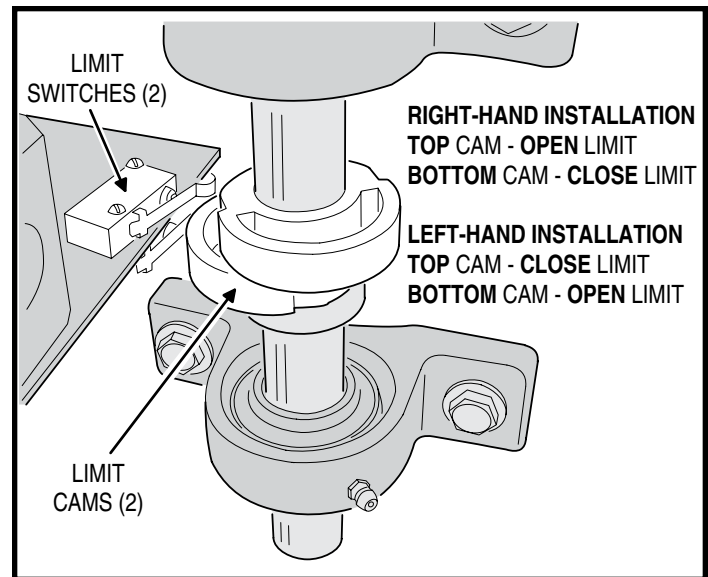

Figure 10. Setting Limit Cams
The limit cams are not preset at the factory and must be adjusted for each installation. The limit switches are activated by two rotating limit cams attached to the drive shaft (see Figure 10). The Controller is factory set for right hand installations. The top cam is for OPEN and the bottom cam is for CLOSE. The cams flip their definition in left hand installations (see left-right hand programming on Page 12).
2. Once the gate is in the fully open position, set the OPEN limit cam so that it has just triggered its switch (see Figure 10).
3. Manually move the gate to its fully closed position, set the CLOSE limit cam so that it has just triggered its switch (see Figure 10).